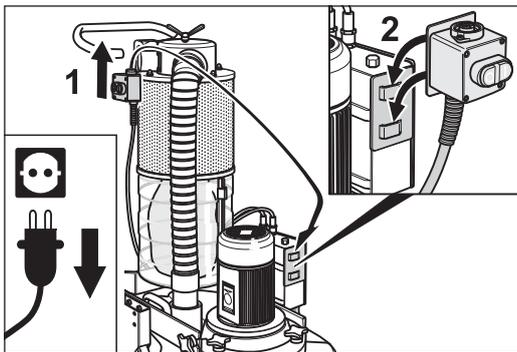

Fig. 64 Hook the on/off switch into the transport holder on motor switch box.
- 4 Remove the on/off switch from the chassis (fig. 64, 1) and hook it into the transport holder on motor switch box (fig. 64, 2).